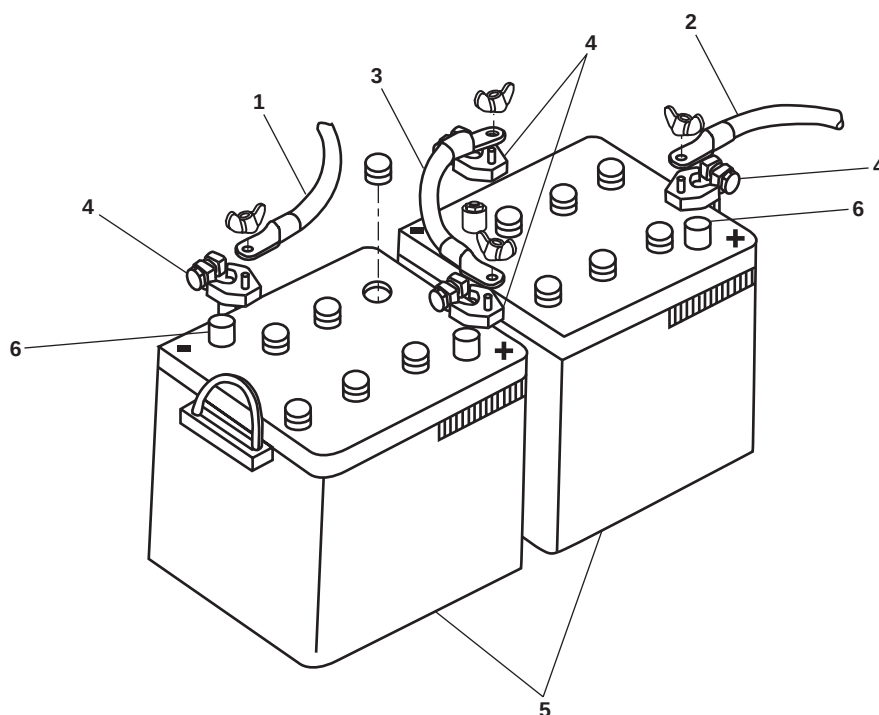

Figure 2. Battery, Power Supply System
4. Label and remove the negative battery cable (figure 2, item 1) from the battery bank.
5. Label and remove the positive battery cable (figure 2, item 2) from the battery bank.
6. Label and remove the connector battery cable (figure 2, item 3) from the battery bank.
7. Remove the battery post connectors (figure 2, item 4) from the batteries (figure 2, item 5), taking care not to apply any prying or twisting force to the battery posts (figure 2, item 6). If the battery post connectors are difficult to remove from the battery posts, spread the battery post connectors to loosen them before attempting to remove them from the batteries.
8. Remove the batteries (figure 2, item 5) from the compartment.
1. Place the new batteries (figure 2, item 5) into the battery compartment.
2. Install the battery post connectors (figure 2, item 4) on the battery posts (figure 2, item 6).
3. Install the connector battery cable (figure 2, item 3) on the batteries (figure 2, item 5) using the labels from step 6 of Removal as a guide. Remove the labels.
4. Install the positive battery cable (figure 2, item 2) on the batteries (figure 2, item 5) using the labels from step 5 of Removal as a guide. Remove the labels.
5. Install the negative battery cable (figure 2, item 1) on the batteries (figure 2, item 5) using the labels from step 4 of Removal as a guide. Remove the labels.